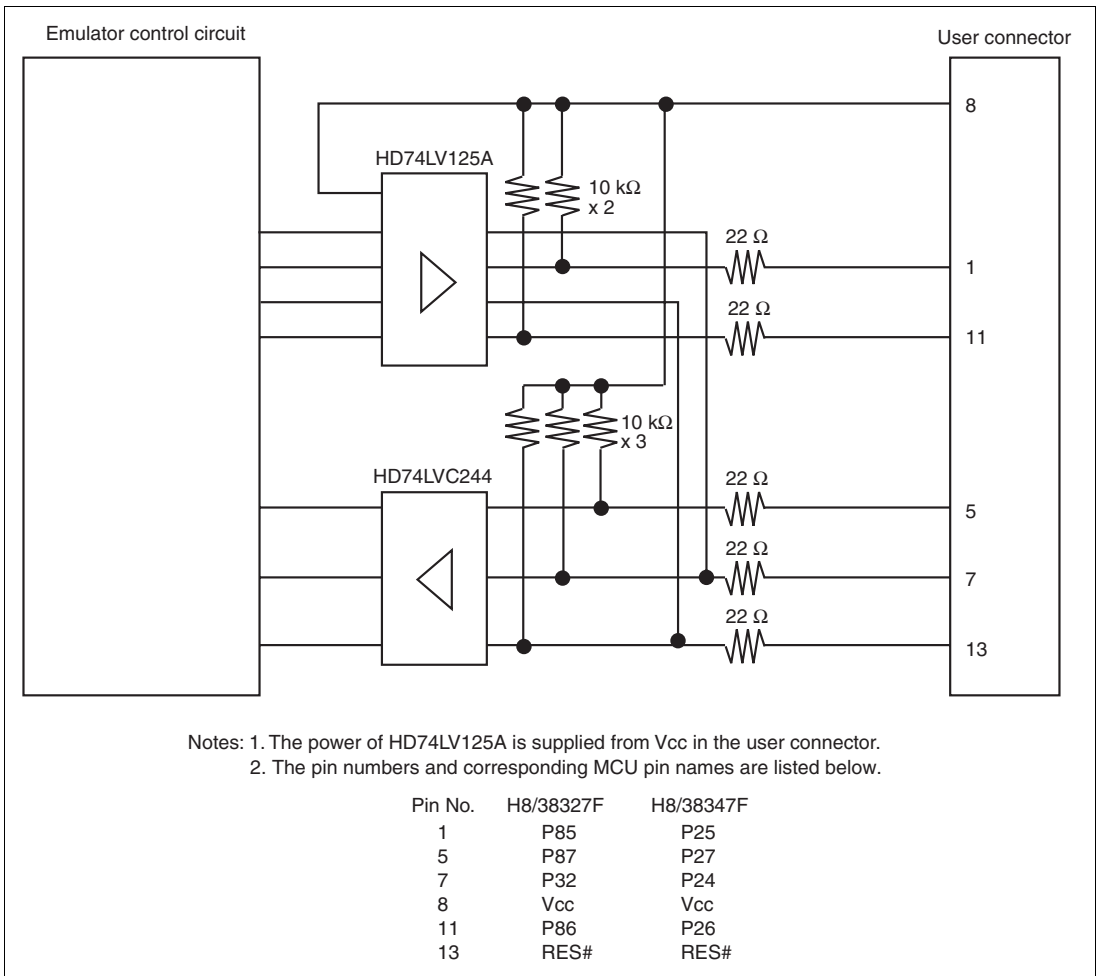

Figure 3.8 Interface Circuit in the Emulator (Reference)
7. Figure 3.8 shows the interface circuit in the emulator. Use this figure as a reference when determining the pull-up resistance value.